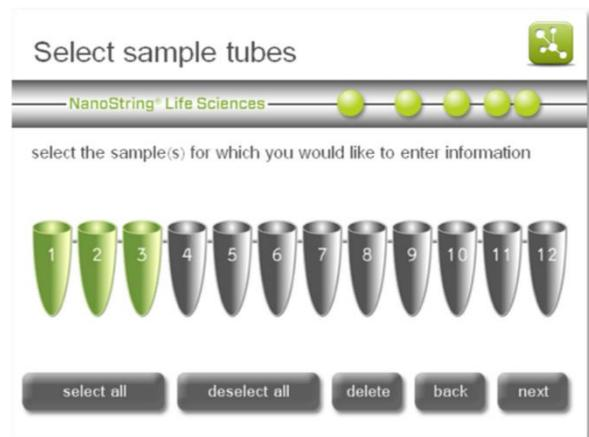

Figure 76: The ‘Select sample tubes’ screen.
10. Select the **samples** field. The ‘Select sample tubes’ screen will appear (**Figure 76**).